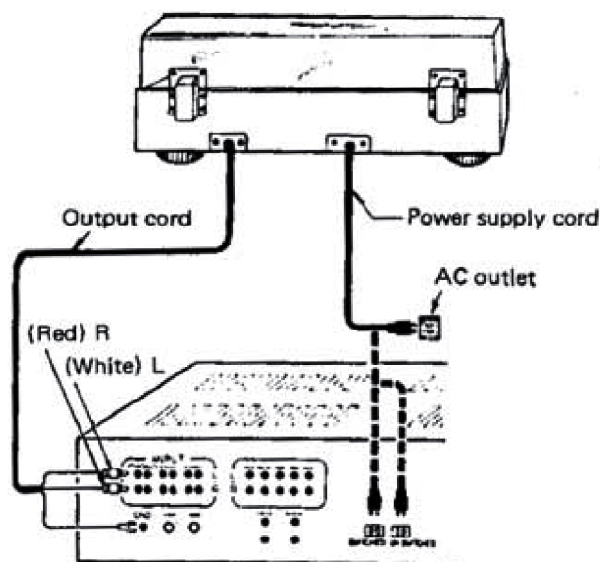

Fig. 10
Make sure to turn **OFF** the power switch of the amplifier and make the connections, as shown in Fig. 10.
- Are the output cables properly connected to the amplifier? Refer to Fig. 10 on page 9